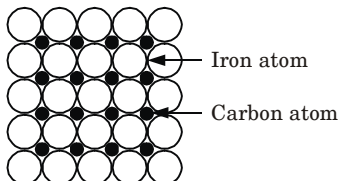

Fig. 8. Interstitial solid solutions.
2. Carbon in iron is the example of such a type of solution which is the basis of steel hardening (Fig. 8).